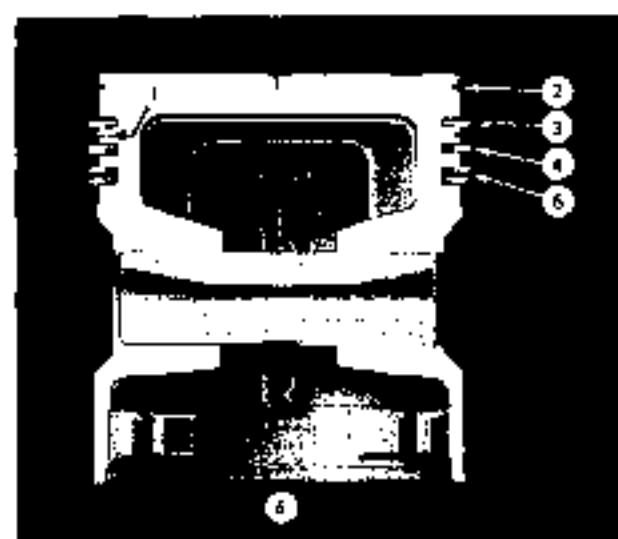

FIG. 378
The piston (Fig. 378) of the Commander engine is provided with a groove (1) in the second land to reduce blow by to a minimum in the higher speed operating range. It is important that the groove be cleaned whenever the pistons are removed. To clean the groove, apply coarse grinding compound to a piece of string, then run the string around through the groove until the groove is clean. After cleaning the groove thoroughly be sure to remove all grinding compound from the piston.